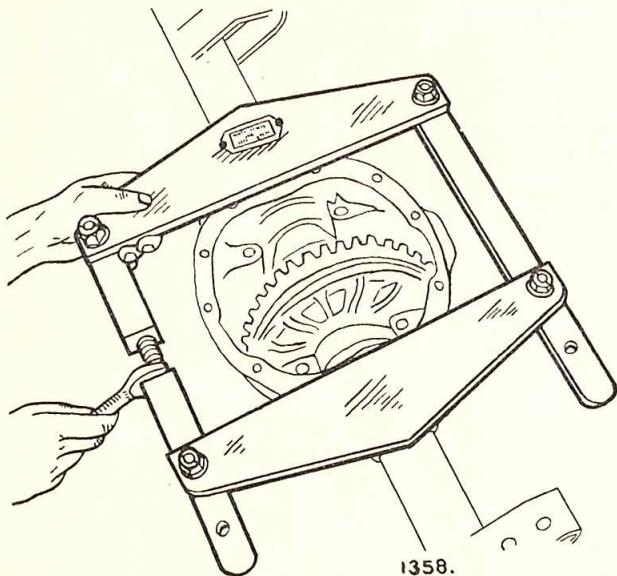

Fig. 6. Stretching the gear carrier prior to removing the differential.
- (1) Withdraw the four bolts securing the two differential bearing caps and remove the two caps.
- (2) Before attempting to remove the differential assembly, fit the stretching fixture, Tool No. SL.1, Fig. 6 (see " Special Tools " on page H.5).